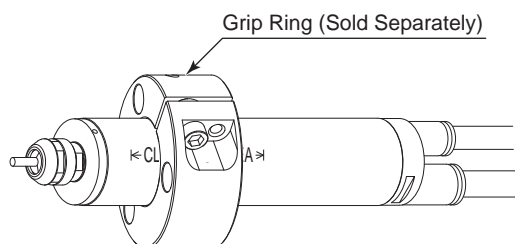

Fig. 10
* When installing the Air Motor Spindle, it is recommended to use a " GR - 30 Grip Ring (sold separately (Fig. 10)) ". If the GR - 30 Grip Ring cannot be used due to the restriction of dimension and space, install as shown in ② below.